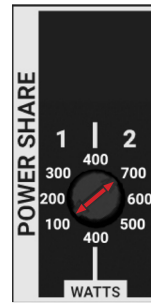

Fig. 5
- **Fig 5** - CLA802 Power Share selection arrow pointer is 100W CH 1 / 700W CH 2